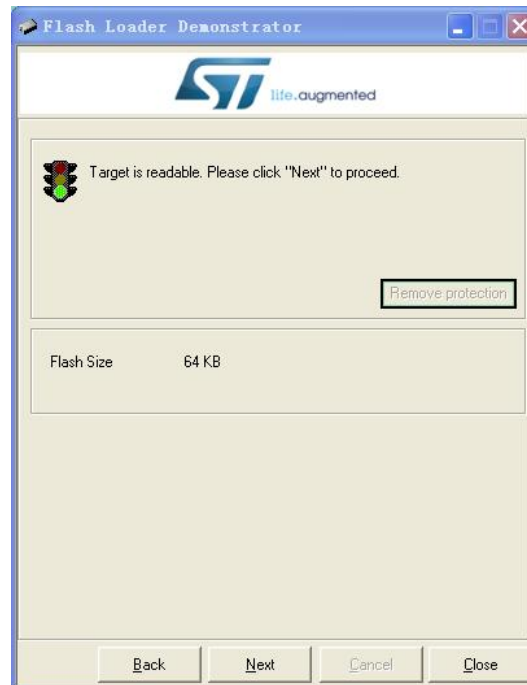
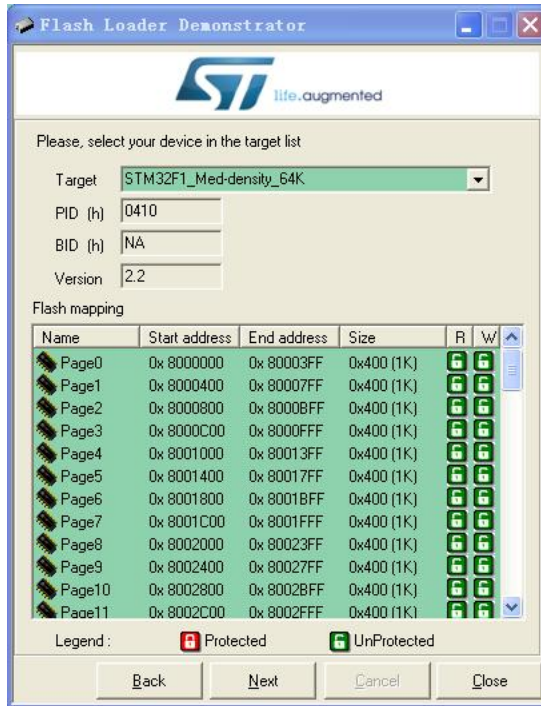

Fig. 6
Fig. 7
- 4) If there is no error you should see Fig. 6. This is a temporary state showing that the PC has successfully detected bootloader and the flash memory is readable or not. If you have problem to enter this state you can try reset the MCU by pressing on the Reset button on PCB and try again. If that still doesn't work check connections and JP1/JP2. Otherwise click on Next to proceed to next step as shown in Fig. 7.
- 5) Fig. 7 shows information about the MCU type and its flash memory. You just need to make sure the selection at Target dropdown is the same as shown in Fig. 7. Then click Next to proceed to next step.